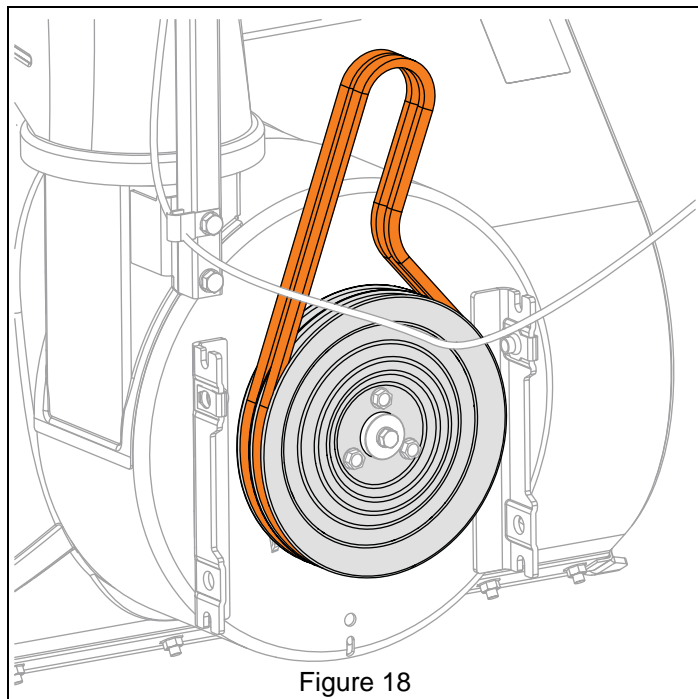

Figure 18
4. Remove attachment drive belts from attachment drive pulley. See Figure 18.